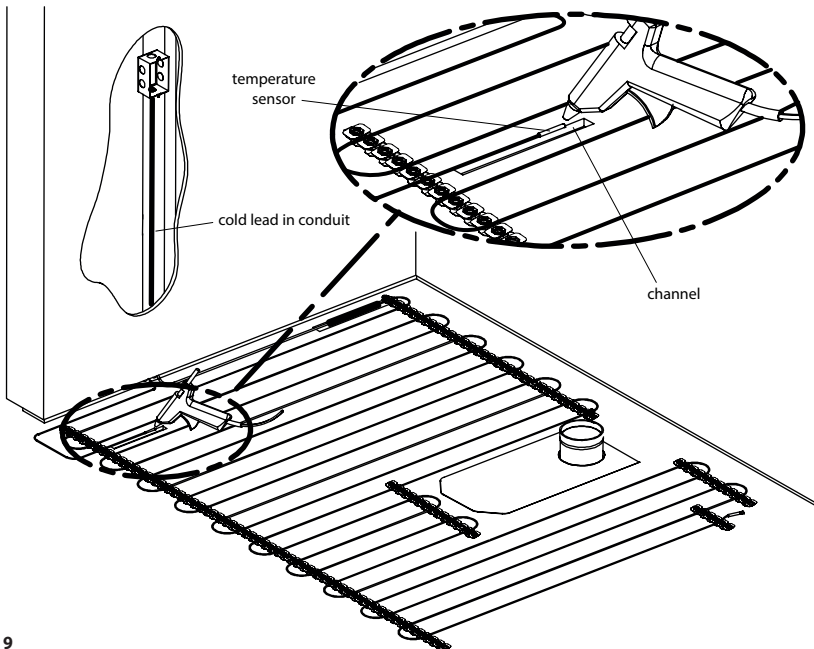

Figure 9
- Glue the sensor to the subfloor (figure 9). The sensor must be solidly fastened to the subfloor to ensure it stays in place when the cement or an equivalent binder (cement glue, ceramic glue, self-levelling cement) is applied.
- The floor temperature sensor must be centered between two parallel heating cables under the mat (figure 9). The ideal location is one where it is likely to be away from stationary objects and sheltered from outside influences (sunlight) that could skew floor temperature readings. For maximum comfort, the area above the sensor must be free of obstruction.